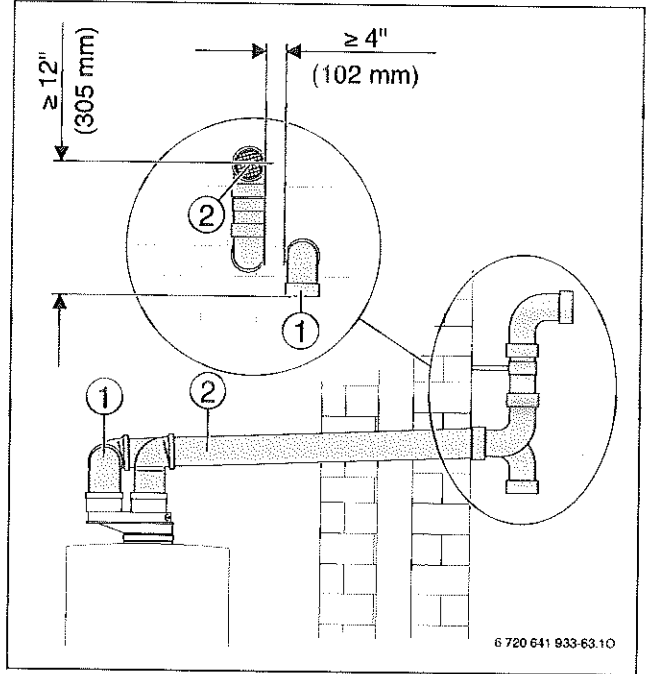
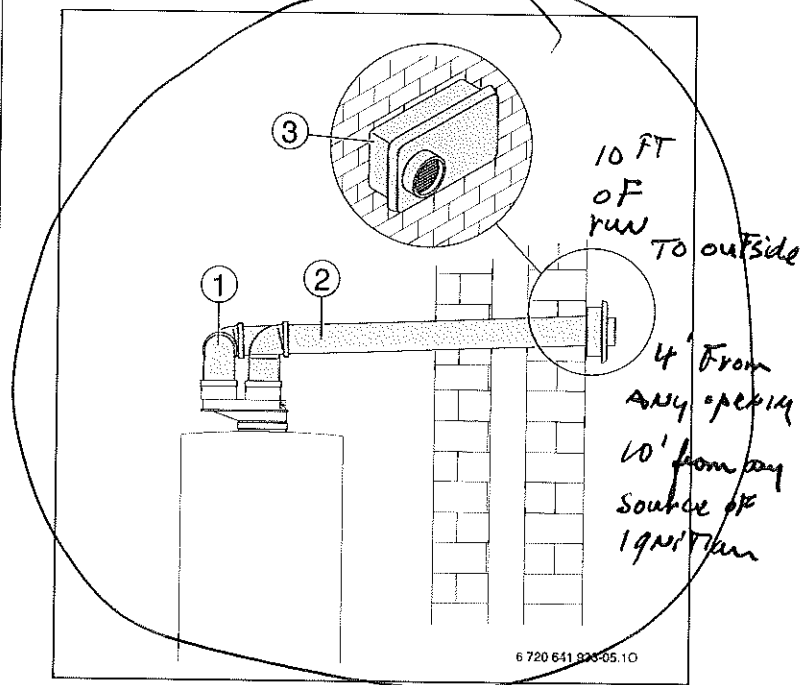

Fig. 29 Horizontal venting system (sealed combustion)
Fig. 30 Horizontal venting system (sealed combustion)
**Key to Fig. 29 and Fig. 30:**